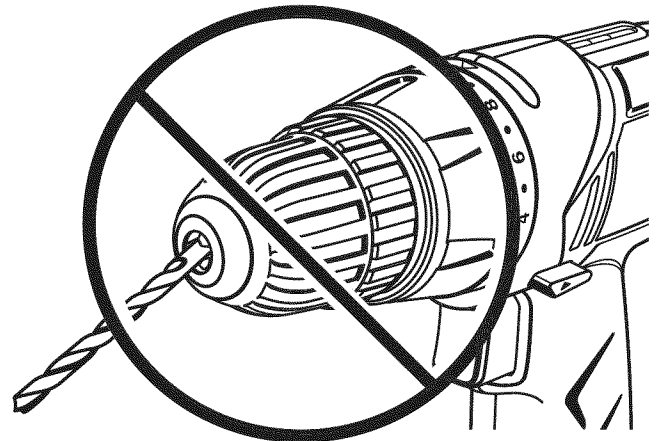

Fig. 10
- ⚠ **WARNING:** Make sure to insert the drill bit straight into the chuck jaws. Do not insert the drill bit into the chuck jaws at an angle then tighten, as shown in figure 10. This could cause the drill bit to be thrown from the drill, resulting in possible serious personal injury or damage to the chuck.